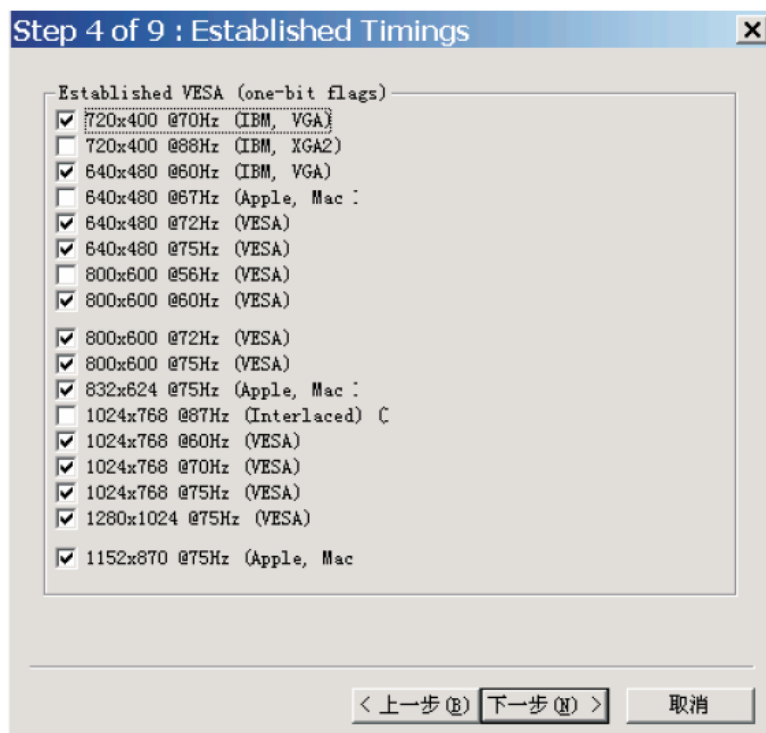

Fig. 17
3. Click Next , bring up Fig.17.